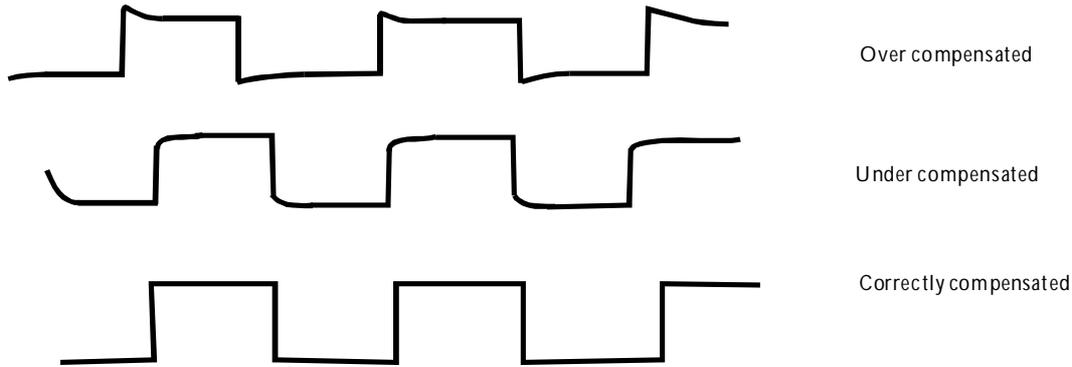

Figure 5-2 Typical Compensation Waveform
7. Observe the displayed waveform and compare them with the waveforms shown in figure 5-2. If either probe needs to be adjusted, proceed the step 8. If either probe does not need to be adjusted, proceed the "Function Check"